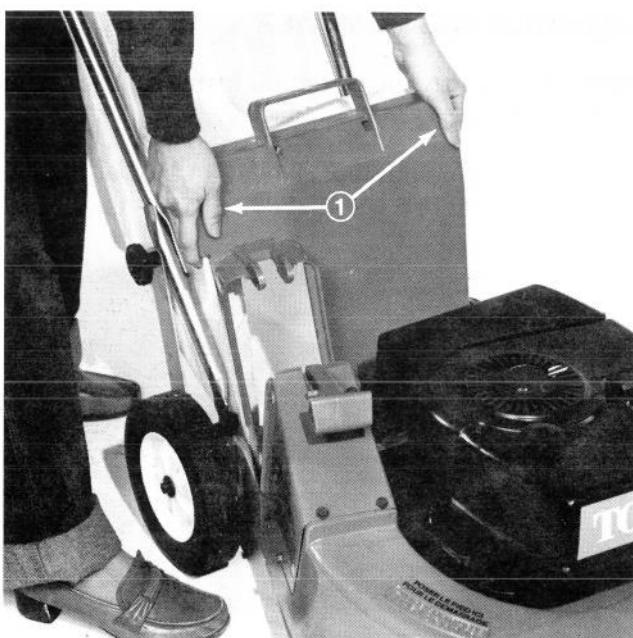

Figure 5
2. Pick up bag assembly by front and rear handles on bag and hang rear of bag in lower notch of each bracket (Fig. 5).
3. Check to insure bag door is forward of projections at rear of mower discharge chute (Fig. 4). Hold front of bag and bag door together to insure bag door stays closed and slide door opening frame over projections on outside of mower rear discharge chute (Fig. 5).